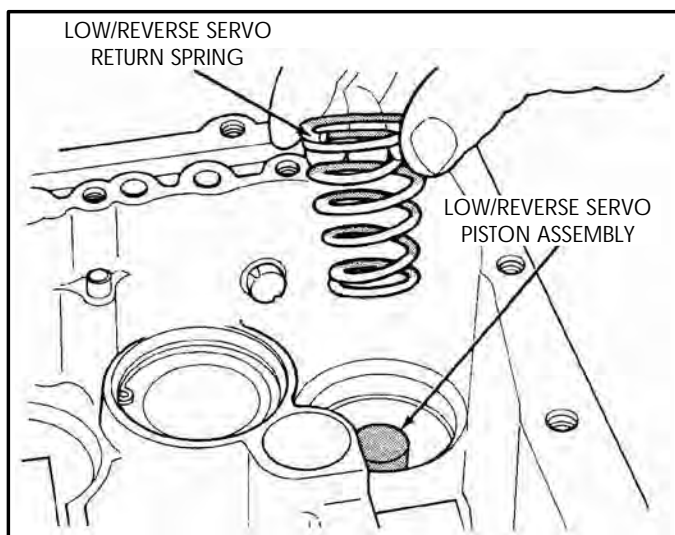

Figure 217
13. Install the low/reverse servo return spring into servo bore, as shown in Figure 217.